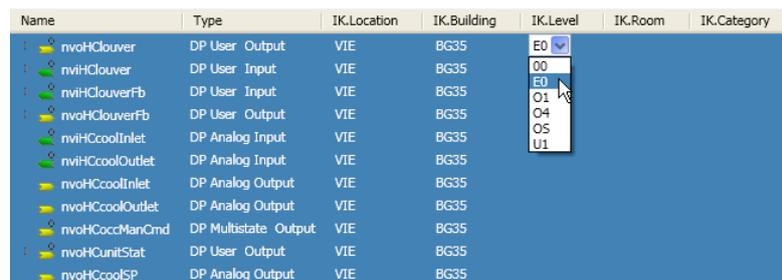

Figure 69: Multi-Edit Identification Keys
- Click on the identification key field of the first data point and change it (see Figure 69). The identification key of all selected data points is changed.